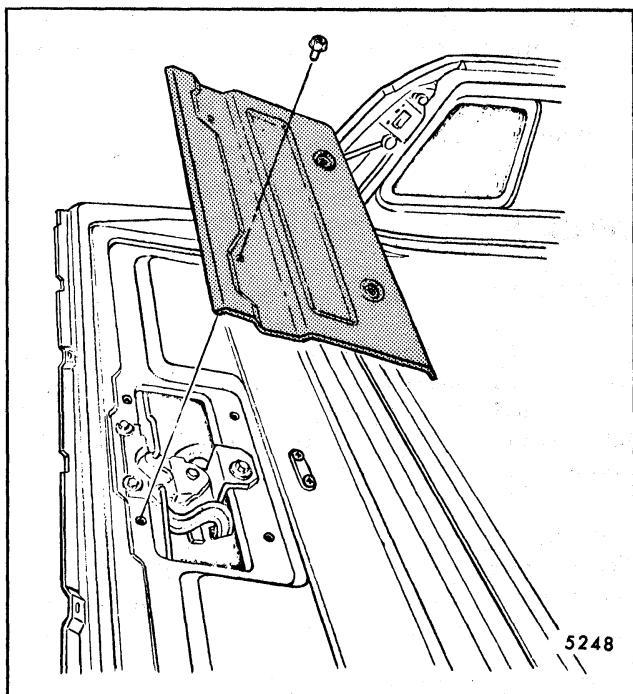

Fig. 7-104-Tailgate Inner Panel Access Hole Cover
The single acting tailgate employs an inner panel access hole cover which is secured to the inner panel entirely by screws (Fig. 7-104). The cover panel may be removed with the tailgate in either the open or closed position.
1. Remove tailgate inner panel access hole cover (Fig. 7-104).